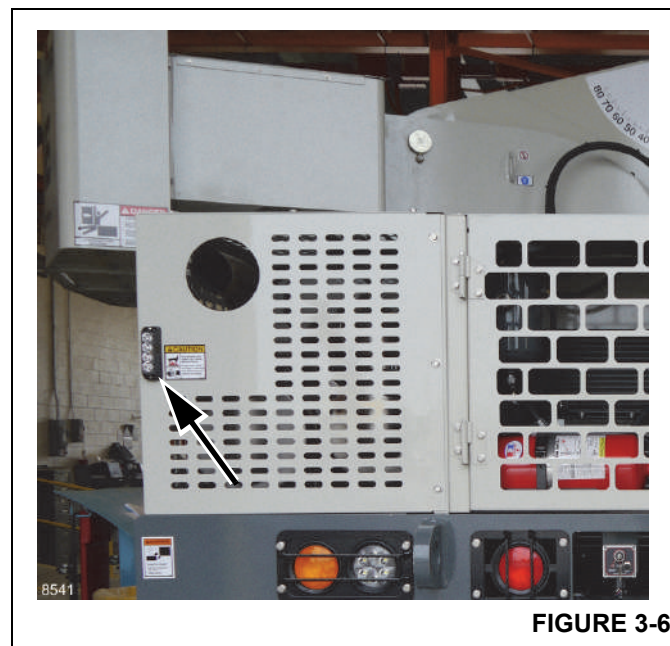

FIGURE 3-6
The HEST Indicator (14) illuminates red when the exhaust temperature is high during exhaust system cleaning. Also a light (Figure 3-6) by the exhaust pipe will flash as a warning of high exhaust temperatures.